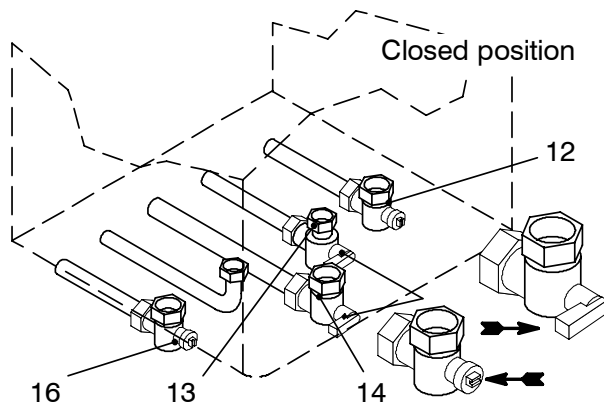

Fig. 9.3
- 1 Check that the gas cock (14 in Fig. 9.3) fitted under the boiler is turned off and the appliance is switched off at the mains isolating spur.
- 15 Open the gas cock (14 in Fig. 9.3)
- 1 Turn off the d.c.w. inlet isolating valve (13 in Fig. 9.3) and turn on the hot water taps and any drain cocks.
- 1 Close the c.h. isolating valves (12 and 16 in Fig. 9.3).